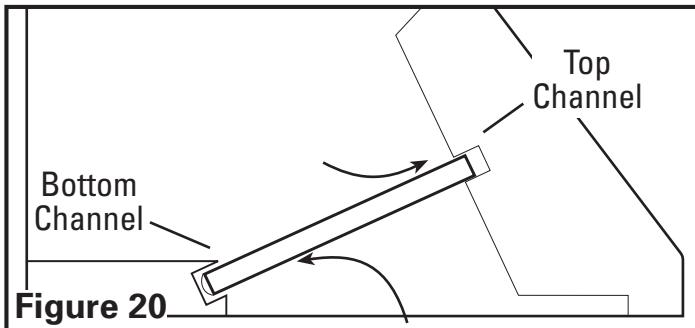

Figure 20
- Install the grease filters by inserting the bottom of the filter into the bottom channel of the hood compressing the spring, then slide the top of the filter into the top channel of the hood (Figure 20).